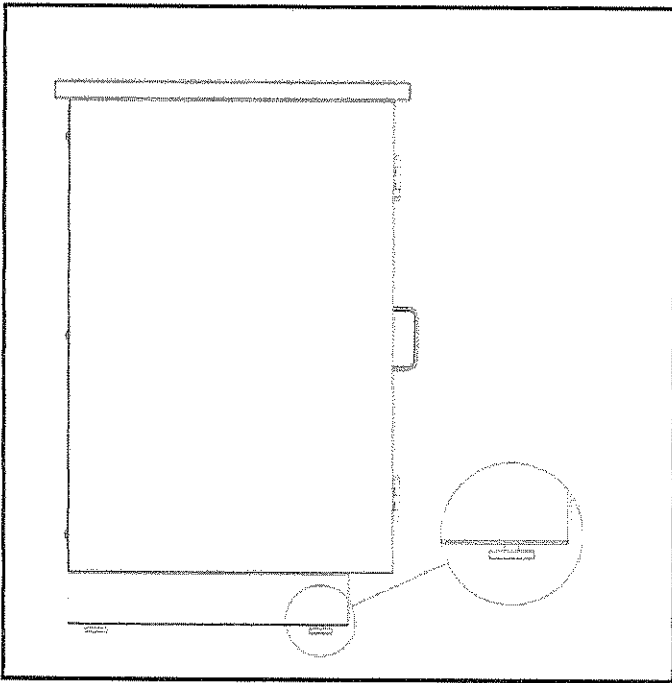

Figure 1
4. Set base cabinets in place. Cabinets are equipped with leveling feet in corners to allow for level and plumb adjustment (see Figure 1). The adjustment of these feet is accessed by removing the metal hole plugs on the inside of the bottom of the cabinet. To adjust, tighten or loosen as necessary using a 5/16" socket wrench.